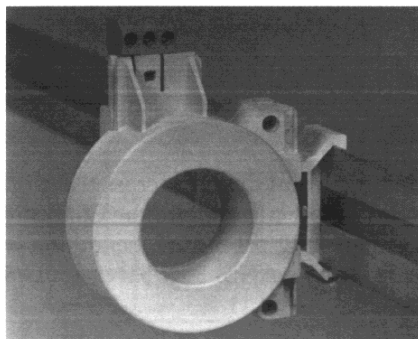
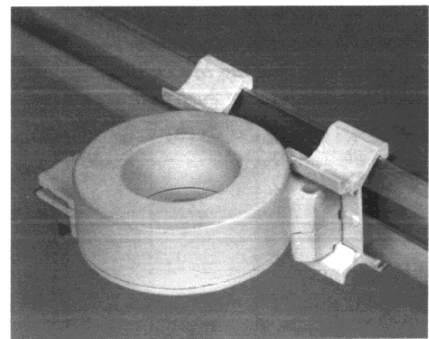

Figure 86: CT assembly mounted vertically on symmetric DIN rail
Figure 87: CT assembly mounted horizontally on symmetric DIN rail
- on the symmetric DIN rail (CSH 30, CSH 120), either vertically (figure 86) or horizontally (figure 87)